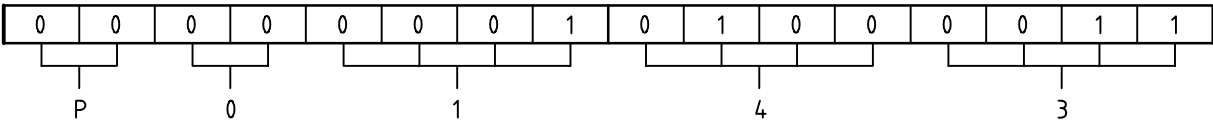

FIGURE 15 - DIAGNOSTIC TROUBLE CODE ENCODING EXAMPLE DTC P0143
DTCs are transmitted in two (2) bytes of information for each DTC. The first two (2) bits (high order) of the first (1) byte for each DTC indicate whether the DTC is a Powertrain, Chassis, Body, or Network DTC (refer to SAE J2012 for additional interpretation of this structure). The second two (2) bits shall indicate the first (1) digit of the DTC (0 through 3). The second (2) nibble of the first (1) byte and the entire second (2) byte are the next three (3) hexadecimal characters of the actual DTC reported hexadecimal. A powertrain DTC transmitted as \$0143 shall be displayed as P0143 (see Figure 15).